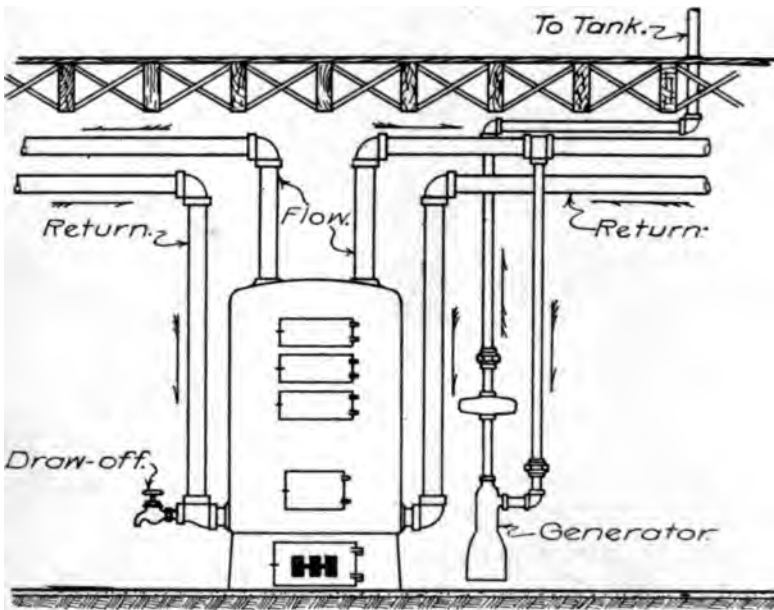

Fig. 65.—Generator Connected to System in Basement.
A. The expansion pipe of the system is connected into the side of the bottle shaped casting above the mercury. The pipe leading to the expansion tank is connected from separating chamber at the top of the generator, Fig. 65. The mercury in the generator is between the water in the system and the water in the expansion tank. When the water is cold the mercury lies at the bottom of the mercury pot. As the water in the system is heated it begins to expand, the expansion pressing downward upon the mercury through the side connection to the mercury pot, thus forcing it upward